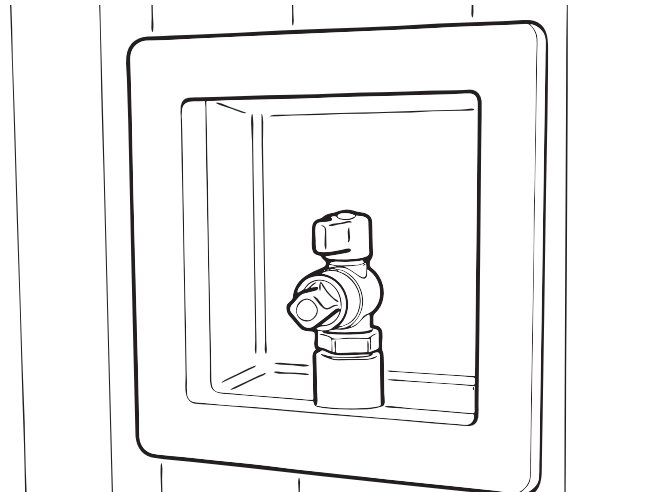

Figure: 4-37
8. Install box cover after completion of drywall. If the gap between the edges of the box and the drywall is less than 1/4", no fire caulking is required (Figure 4-37).